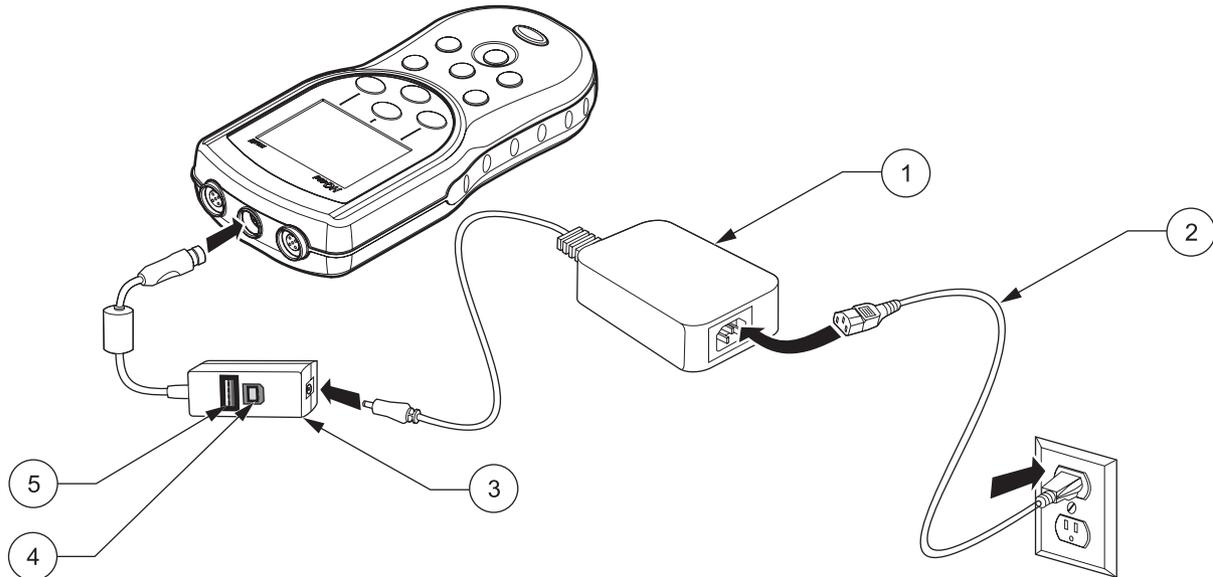

Figure 1 Components for HQ Meter Software Upgrade
Use the following procedure to upgrade the instrument software in HQ30d and HQ40d portable meters. Upgrading the software requires a USB flash drive that contains the new software and the components shown in Figure 1.
2. Connect the USB/DC power adapter to the meter and to the AC-DC power supply as shown in Figure 1. Connect the AC-DC power supply to the power cord.
3. Insert the USB upgrade drive into the flash upgrade port on the USB/DC power adapter (Figure 1, item 5).